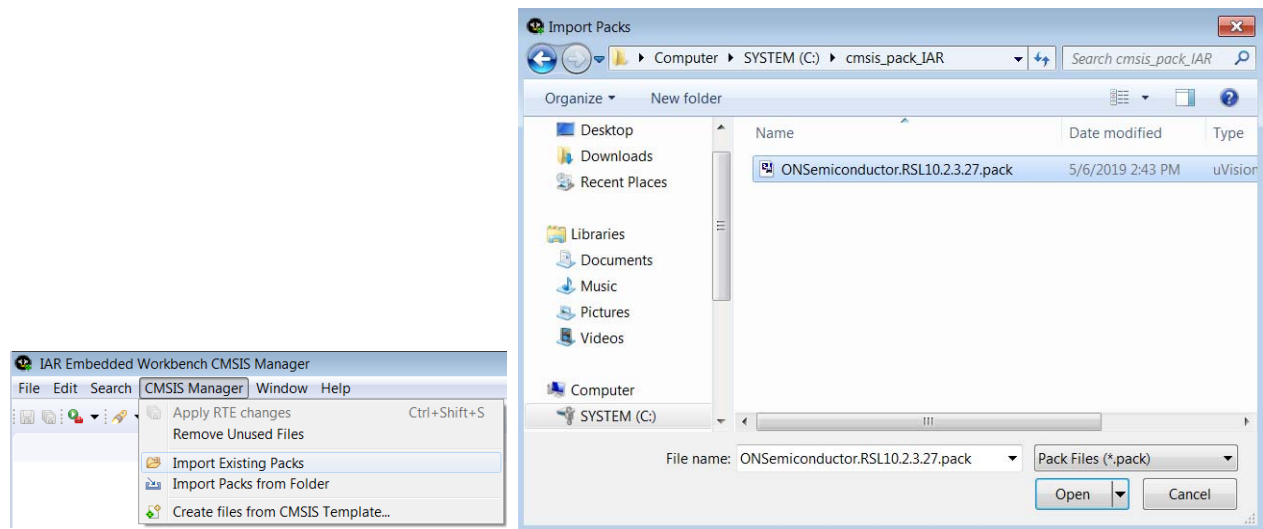

Figure 28. Installing the RSL10 CMSIS-Pack for the IAR Embedded Workbench IDE
3. Click on **CMSIS Manager > Import Existing Packs**, select your pack file *ON Semiconductor.RSL10.<version>.pack*, and click **Open** (see Figure 28). **<version>** is the RSL10 version, such as 2.3.27.